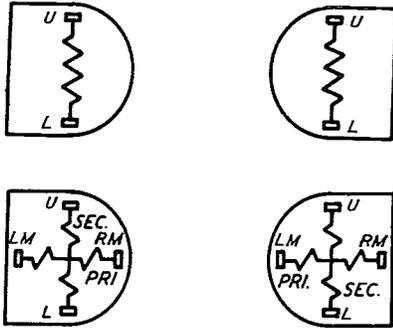

FIG. 25 - WINDING TERMINAL ARRANGEMENT AS VIEWED FROM THE REAR (TERMINAL SIDE) - 221, 222, 223 AND 224 TYPE AND SIMILAR A. E. CO. RELAYS
2.20 The spring numbering for these relays is the same as that covered in Section A804.001.2. The winding terminal numbering used prior to 1931 is as illustrated in Fig. 25. The abbreviation WDG